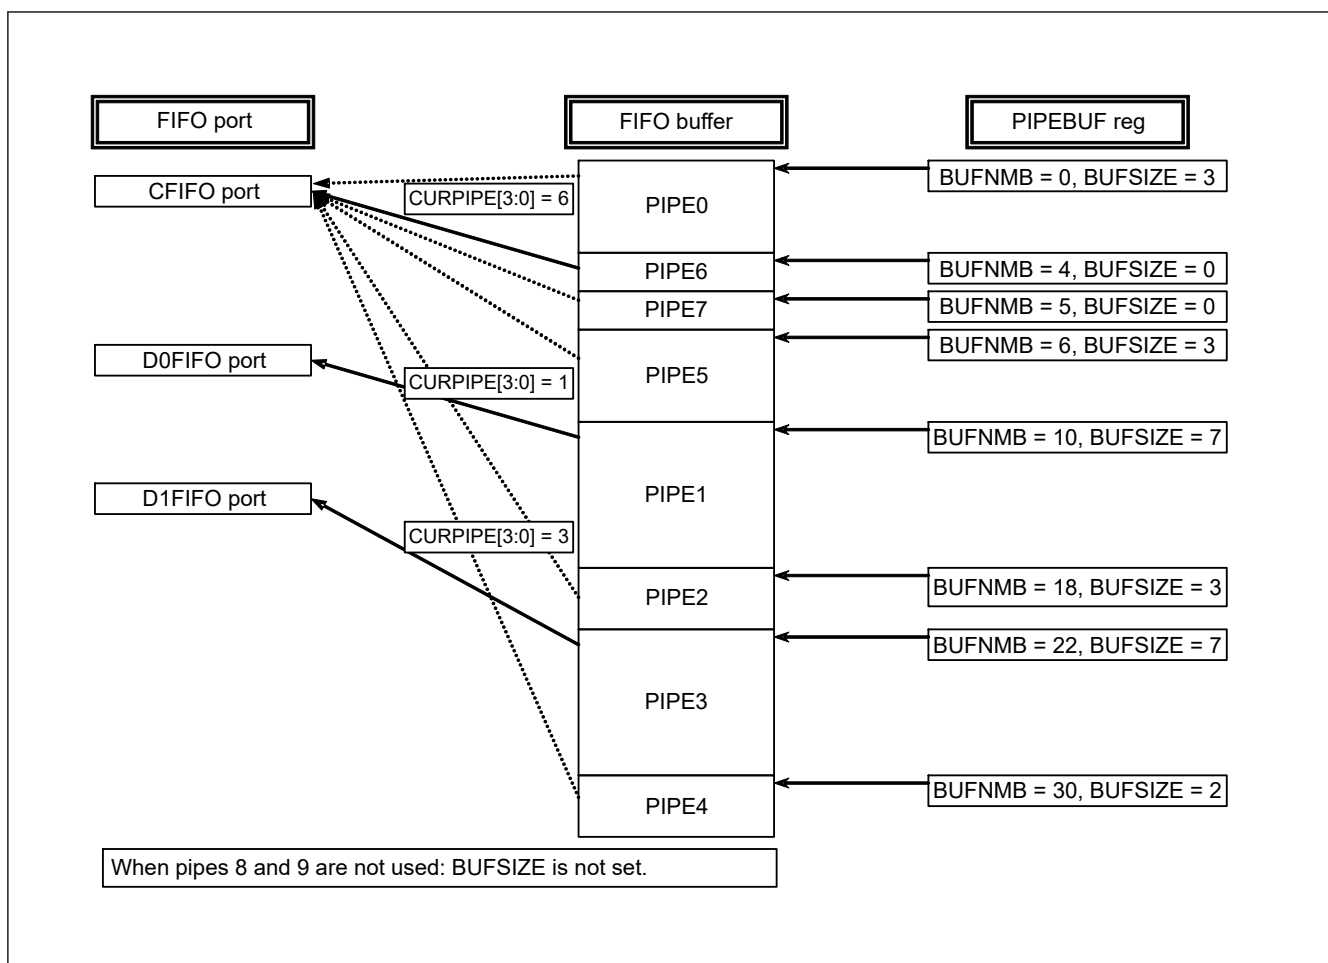

Figure 38.11 Example memory map of the FIFO buffer
Figure 38.11 shows an example of a memory map of the FIFO buffer. The FIFO buffer is an area shared by the USBHS and the control CPU of the application. There are two situations for the FIFO buffer: (1) access rights are given to the application (CPU side), and (2) access rights are given to the USBHS (SIE side).